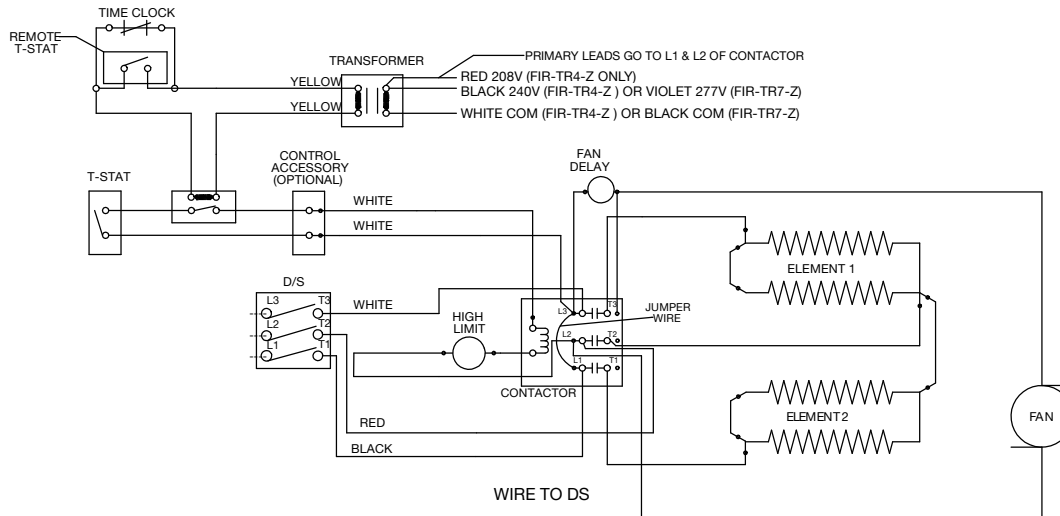

Figure 9
3. For night setback operation, refer to wiring diagram, Figure 9.